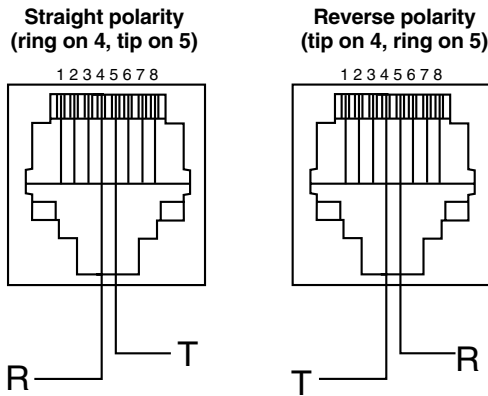

Figure 3-2. Connector signal polarity for the “video 2” signal.
4. Identify the pinout of all involved video baluns and the Video CCTV-A/V Hub to see whether you'll need to use any cross-pinned cable. For example, if you're using all Video Stereo Audio Baluns (IC441A-R2), all of the UTP cable can be straight-through-pinned. Table 3-1 shows the pinouts of several of the baluns that can be used with the hub and straight-through-pinned cable. Figure 3-2 shows the difference between a balun RJ-45 pinning that needs straight-through cable (straight polarity) and one that needs cross-pinned cable (reverse polarity).